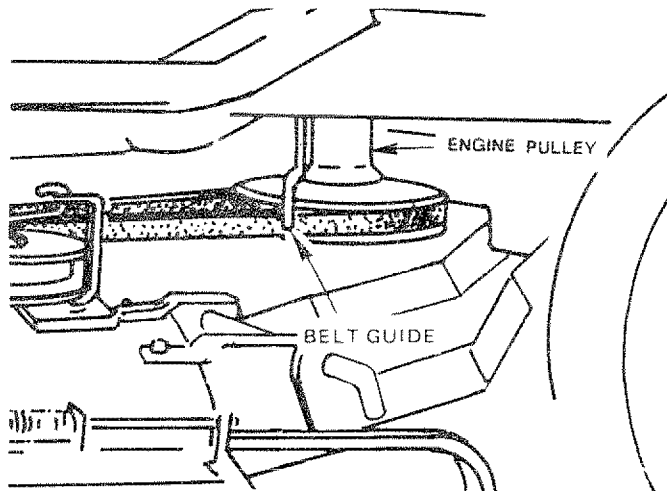

FIGURE 8
- Roll belt over engine pulley. Make sure belt is inside belt guides (Fig. 8). See belt drive schematic decal on mower housing.
- Roll belt off engine pulley (Fig. 8).
- To replace mower drive belt, reverse above procedure. Make sure drive belt is inside mower drive pulley belt guides (Fig. 8).